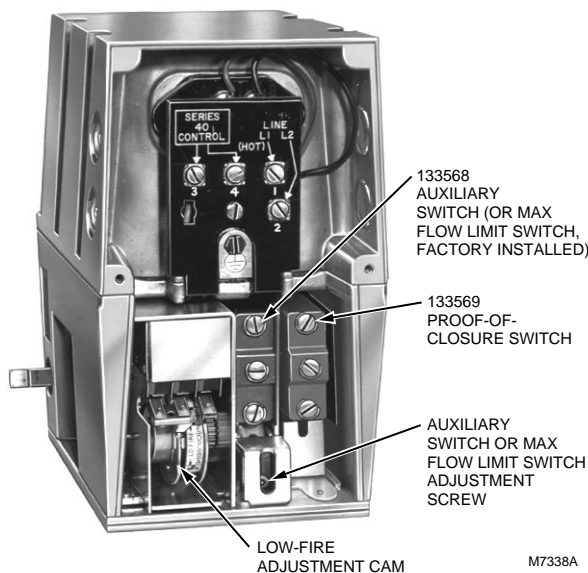

Fig. 2. V4062 Actuator with cover removed.
3. Insert the auxiliary switch in the position indicated in Fig. 2. Fasten with two screws through the actuator base.
4. Insert the proof-of-closure switch in the position shown in Fig. 2. The proof-of-closure switch mounts against the side of the actuator housing. The mounting holes are spaced to allow mounting the switch only in the correct position. Fasten with two screws through the actuator base.
The auxiliary switch can be adjusted to operate at any point in the actuator stroke. After installing the switch in the actuator, turn the adjustment screw (Fig. 2) clockwise to cause the switch to operate earlier in the stroke or turn counterclockwise  to cause the switch to operate later in the stroke.
## Adjust Max Flow Limit Switch (Fig. 2)